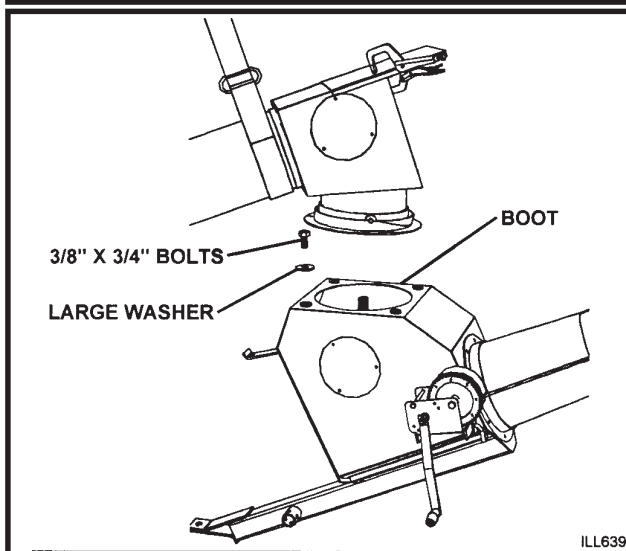

Figure No. 35
12. Install four large washers with 3/8" x 3/4" bolts to keep the intake hopper in place on the boot. (See **Figure No. 35**)